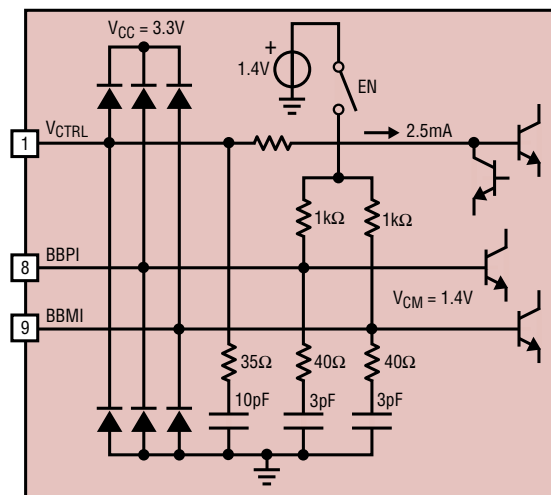

Figure 1. Simplified Circuit Schematic of the Base Band Input Interface (Only One Channel is Shown).
The baseband inputs (BBPI, BBMI, BBPQ, BBMQ) present a differential input impedance of about 1.8kΩ, as depicted in Figure 1. The baseband bandwidth depends on the source impedance and the frequency setting (register 0x00). It is recommended to compensate the baseband input impedance in the baseband lowpass filter design in order to achieve best gain flatness vs baseband frequency. The S-parameters for (each of) the baseband inputs are given in Table 2 for various LO frequency and gain settings.
The LTC5599 supports analog control of the conversion gain through a voltage applied to V_{CTRL} (pin 1). The gain can be controlled downward from the digital gain setting (DG) programmed in register 0x01. In order to minimize distortion in the RF output signal the AGCTRL bit (bit 6 in register 0x01) should be set to 1. If analog gain control is not used, V_{CTRL} should be connected to V_{CC} and AGCTRL set to 0; this saves about 2.58mA of supply current. The typical usable gain control range is from 0.9V to 3.3V. Setting V_{CTRL} to a voltage lower than V_{CC} with AGCTRL = 0 significantly impairs the linearity of the RF output signal and lowers the V_{CTRL} response time. A simplified schematic is shown in Figure 1.